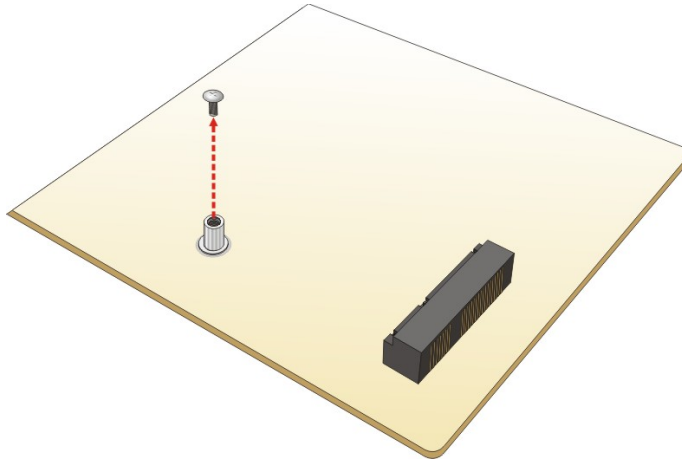

Figure 4-4: Removing the Retention Screw
Step 2: Remove the retention screw as shown in **Figure 4-4**.